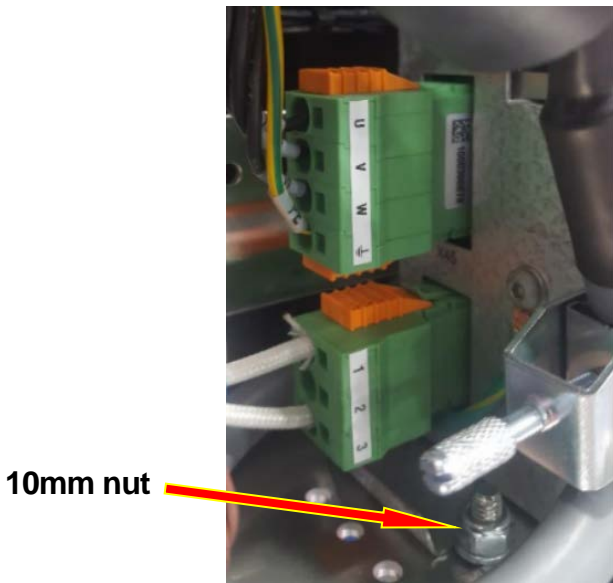

Figure 6
- A) Remove the (2) two 10mm nuts that secure the servo to the bottom plate using a metric deep well socket wrench. See Figures 6 and 7.
- D) NOTE: The (2) two button head bolts that the nuts thread onto are 6mm in size. If they back out, use a 4mm Allen wrench to secure them to the enclosure's bottom plate.